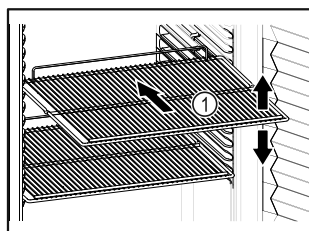

Fig. 59 Example illustration
- ❑ If storage surfaces Fig. 59 (1) are movable, adjust them according to height.